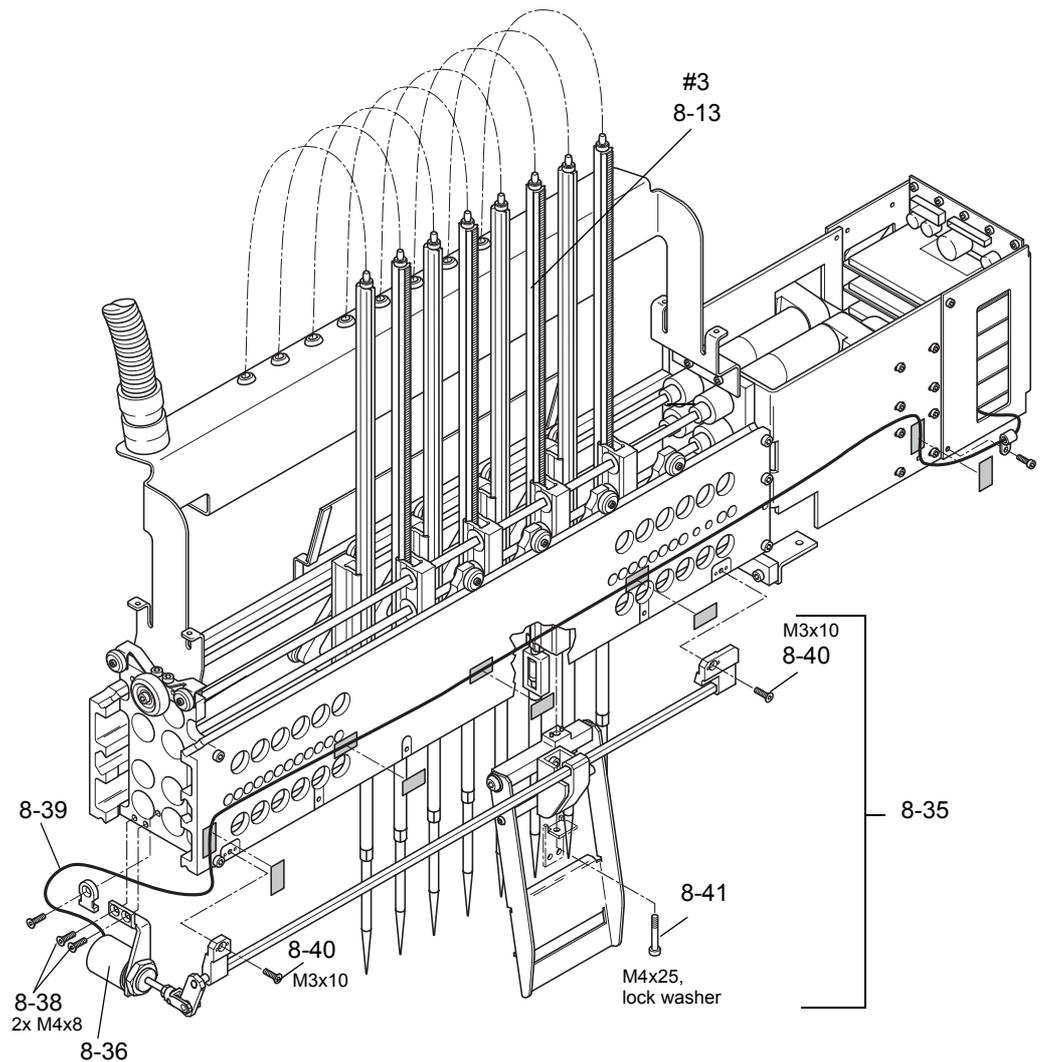

Figure 6-82 Removal of lower DiTi eject option 2
Refer to Figure 6-82, 'Removal of lower DiTi eject option 2'.
- Make sure the solenoid holder screws (Figure 6-82, 8-38) are fixed tightly.